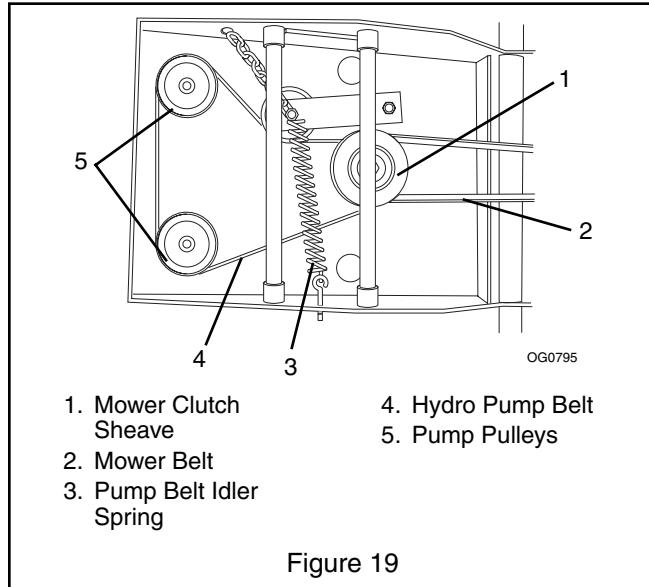

Figure 19
2. Remove mower belt from mower clutch sheave (Figure 19).